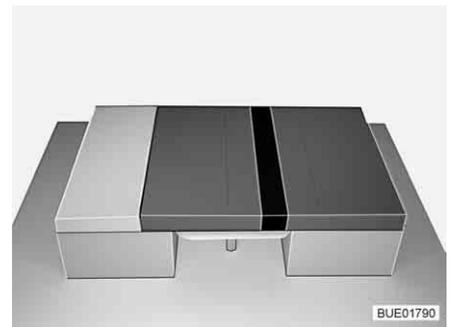

Fig. 97 After conversion
- Insert the additional cushion between the seat cushions (see Fig. 97).